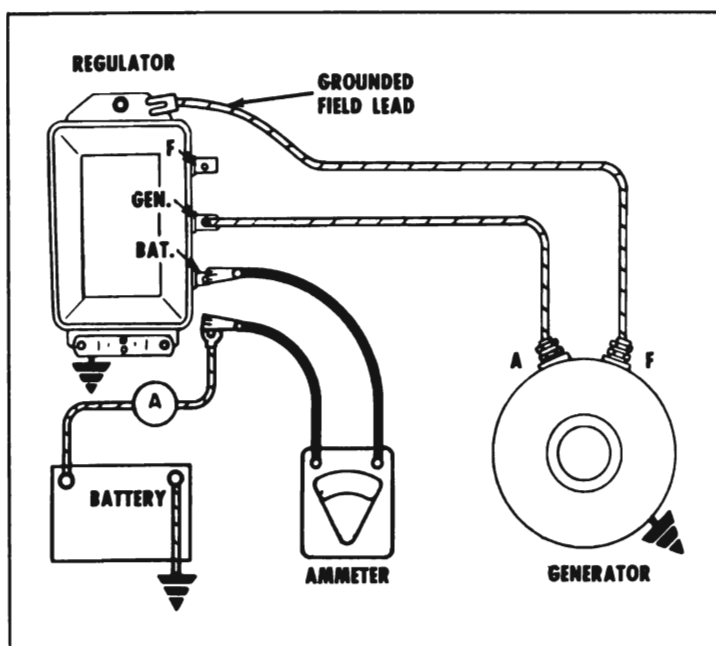

Figure 10-14—Testing Regulator for Oxidized Points
3. Disconnect field lead from regulator "F" terminal and ground it on regulator base. See figure 10-14. If ammeter reading increases